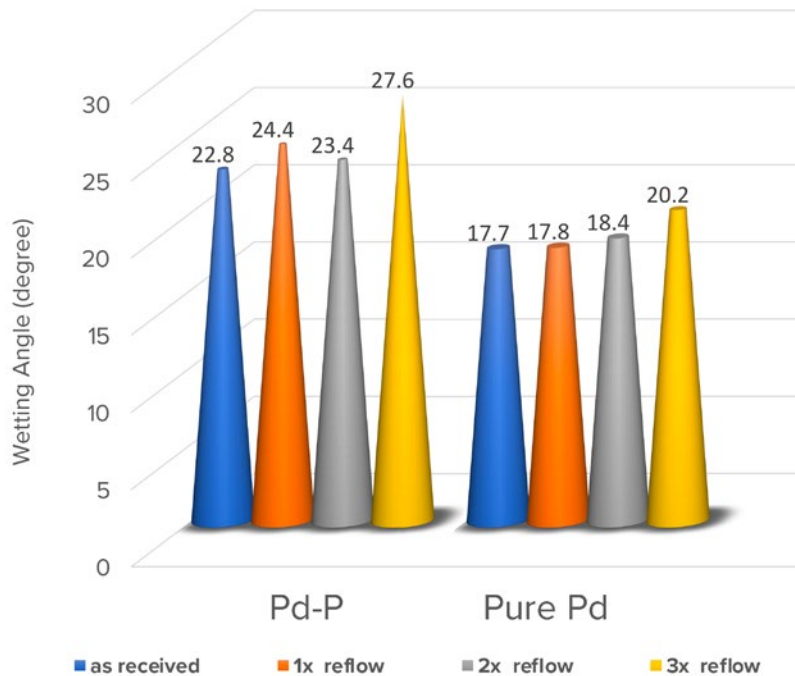

Figure 2: Comparison of wetting angle test results for Pd-P (left) and pure Pd (right) for various aging conditions.⁶
- Pure Pd has a better wetting angle and reflow spread than Pd-P (Figure 2)